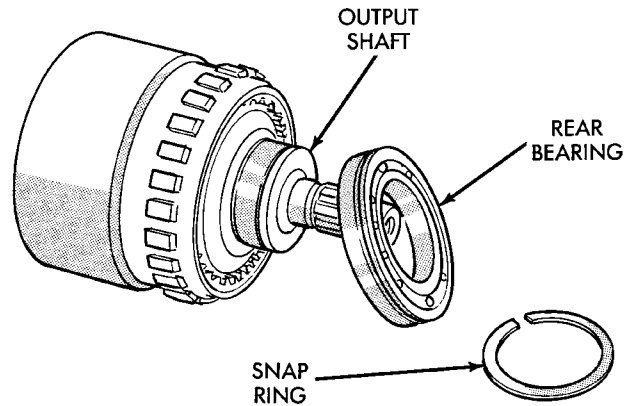

Fig. 207 Rear Bearing Removal
(7) Remove snap ring that retains rear bearing on output shaft.
(8) Remove rear bearing from output shaft (Fig. 207).